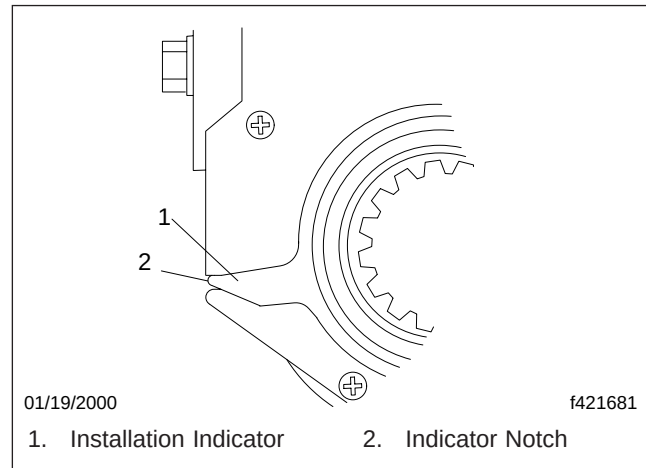

Fig. 4, Installation Indicator
4. Make sure the installation indicator is aligned with the indicator notch on the slack adjuster. See Fig. 4. If the indicator is not within the notched area, the control arm is not installed correctly.